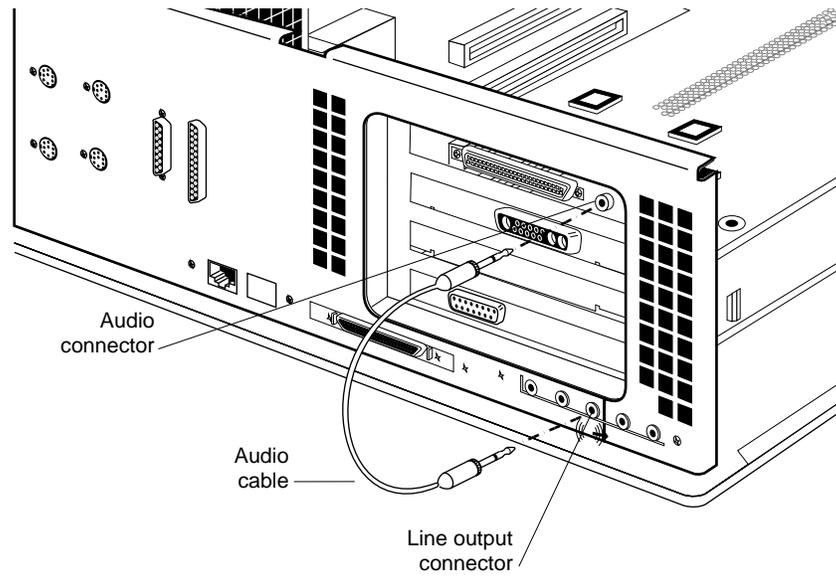

Figure 1-38 Connecting the Audio Cable
- Connect one end to the Presenter board's audio connector, as shown in Figure 1-38. (You can connect either end.)